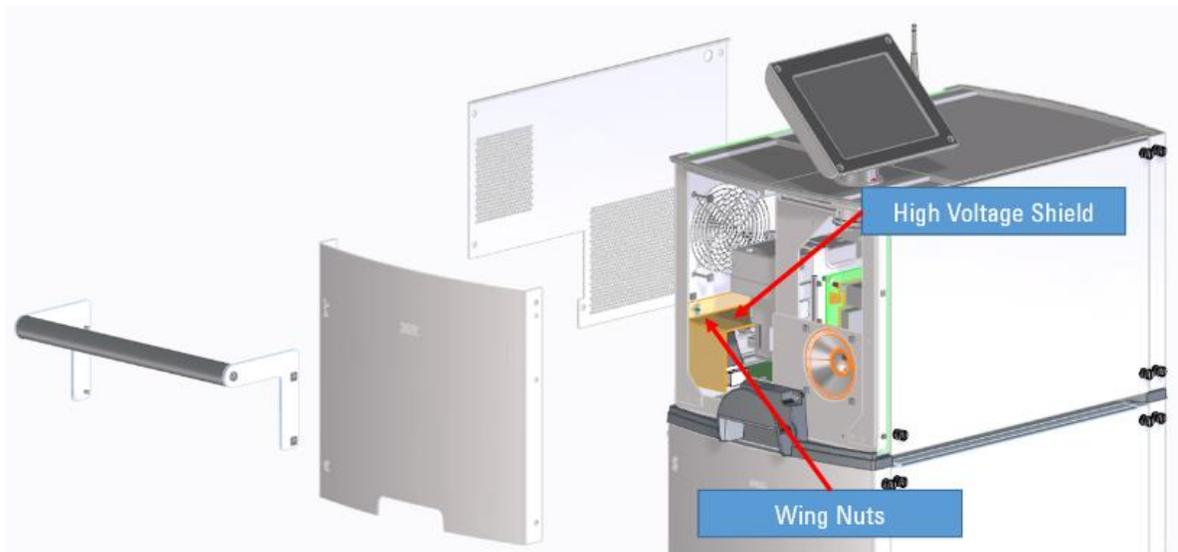

Figure 3: Plastic Shield
- Remove the two wing nuts holding the plastic shield around the power input area inside the leak detector and remove the shield (Figure 3: Plastic Shield).
- Reinstall the plastic shield covering the line voltage components using the two wing nuts (Figure 3: Plastic Shield).